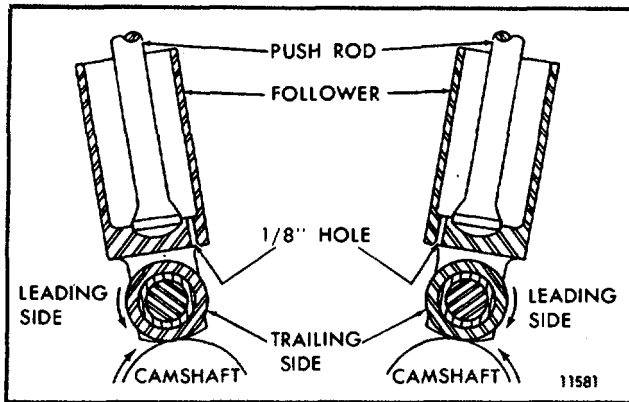

FIG. 10. - Installation of Cam Followers
1. Note the oil hole in the bottom of the cam follower. With the oil hole directed away from the exhaust valves (Fig. 10), slide the cam follower in position in the cylinder head.
With the oil hole directed away from the exhaust valves (Fig. 10), slide the cam follower in position from the bottom of the head.